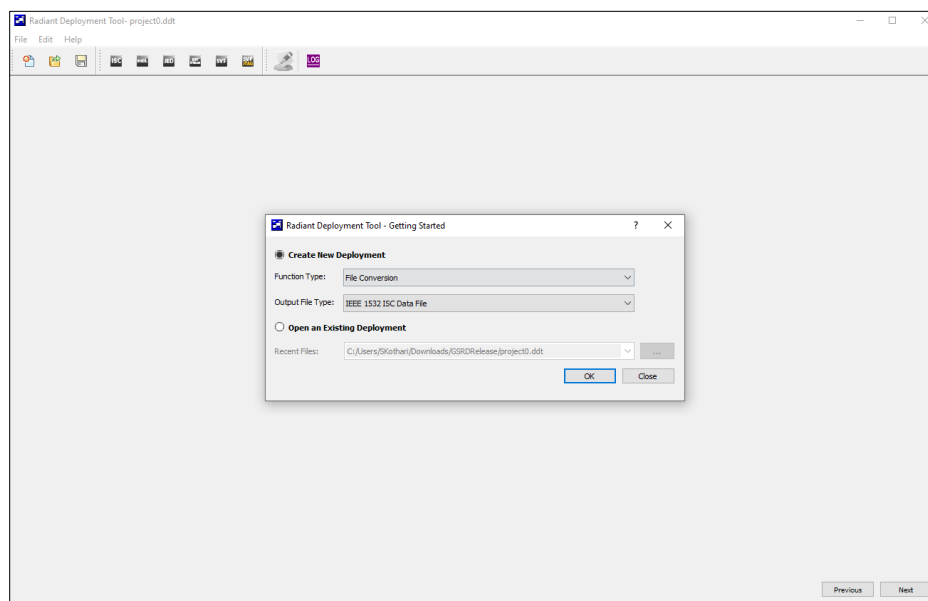

Figure 7.58. Deployment Tool Start Window
4. This opens the Deployment Tool window as shown in Figure 7.58.